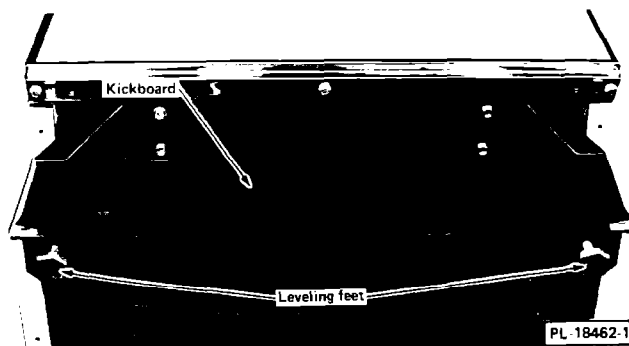

Fig. 3
5. Level the compactor by turning the leveling feet (Fig. 3) as necessary. A minimum 1/4" clearance MUST BE MAINTAINED between compactor top and counter top for service accessibility.
For a few special installations where the leveling feet (Fig. 3) have been set to the low screwed-in position, and/or if the compactor is mounted on an extra thick shag or similar type carpet, the rubber kickboard molding (Fig. 3) might drag on the carpet when the drawer is opened. Should this happen, simply remove the kickboard (Fig. 3) and cut the molding (Fig. 3) with a pair of scissors to suit your installation.